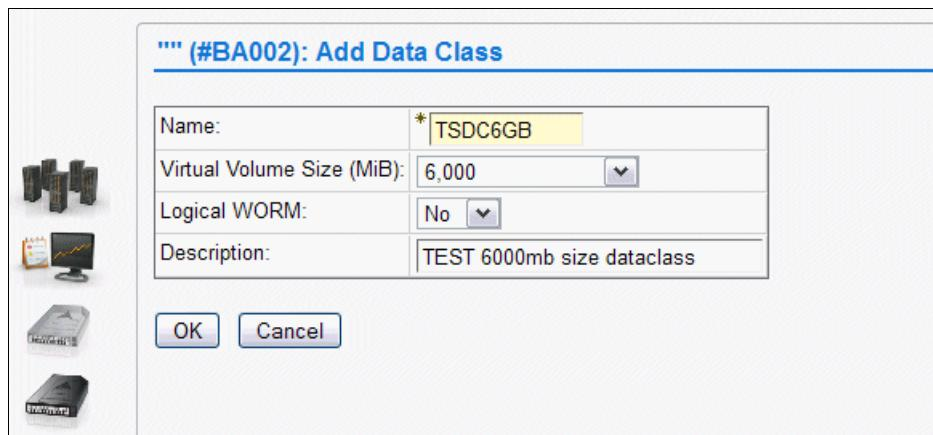

Figure I-8 Data Class for TEST with 6000 MB volume size
4. Define a DC for TEST that is named TSDC6GB (6000 MB), as shown in Figure I-8.